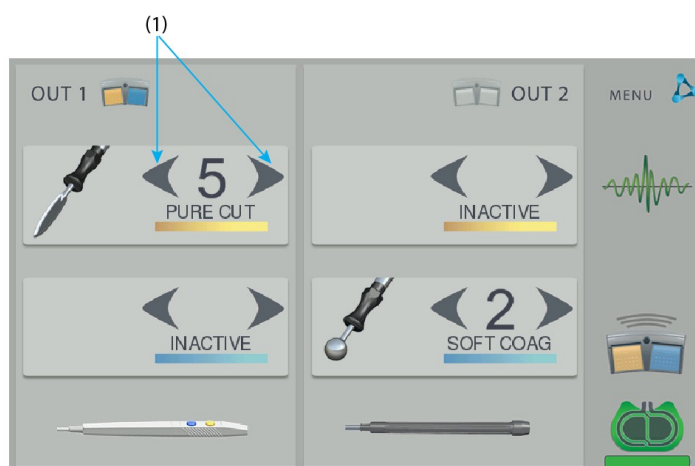

Figure 30 Changing the effect of the operation.
In order to change the effect of the selected operating mode, use the arrows situated at the icon of the currently selected mode. The arrow pointing to the left decreases the effect, whereas the arrow pointing to the right increases the effect (Fig. 30, item 1).